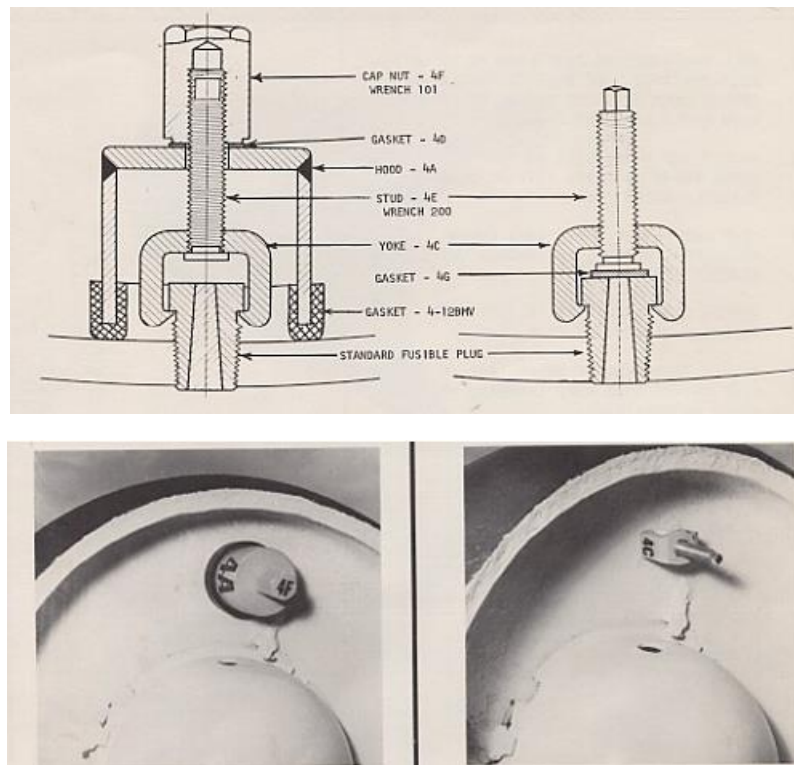

Figure 24: Using Method for Kit No. (4)
Kit No. (4): It is a covering tool used to contain leakage from or around the fusible plug, as shown in Figure 24.